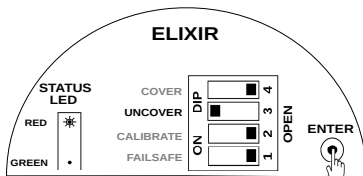

Figure 24: Setting Uncover Delay
3. Press ENTER. The STATUS LED starts blinking. Blink the STATUS LED according to value of uncover delay as shown in Figure 24.